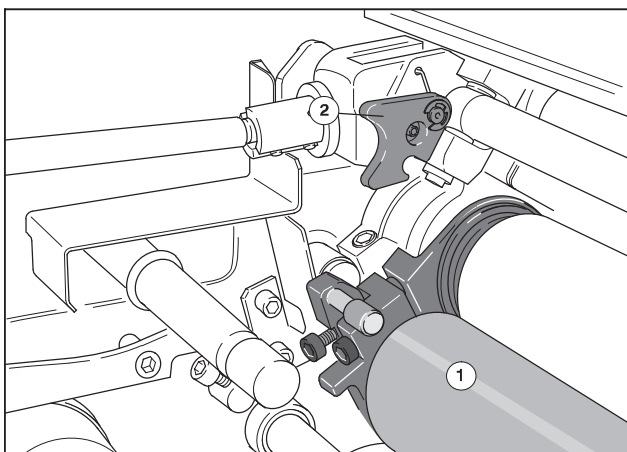

Fig. 33 Inking up the dampening system
1. **For inking up**, engage the dampening roller (Fig. 33/1) at the ink distributor (washup position, Fig. 33).
3. Swivel the dampening roller (Fig. 33/1) back up and let engage at the levers (Fig. 33/2).